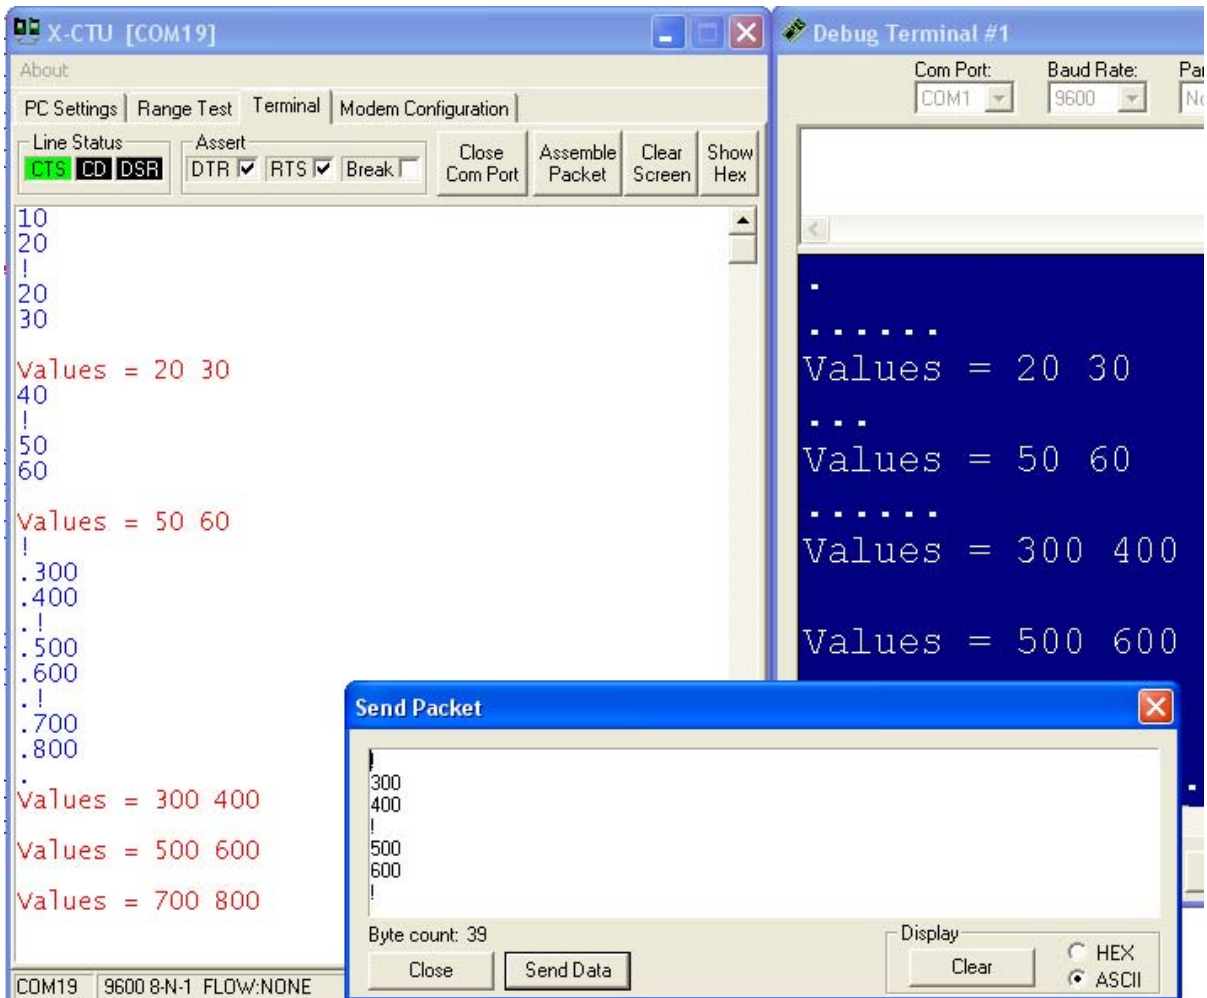

Figure 4-7: Using RTS for Decimal Values Testing
- ✓ Use the Send Packet window to make a series of numbers and !’s to be sent and test. Notice in Figure 4-7 each set of data following the delimiter was correctly processed.